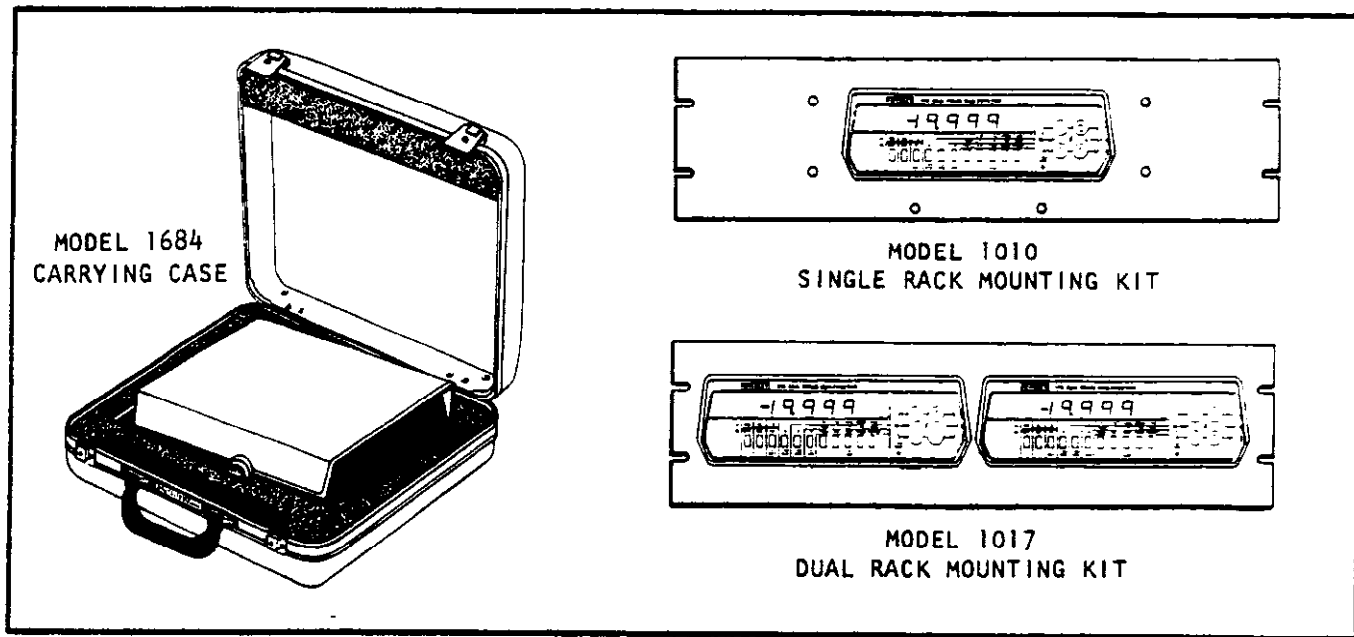

FIGURE 2-7. Carrying Case and Rack Mounting Kits.
g. Model 1684 Carrying Case. The Model 1684 Carrying Case (Shown in Figure 2-7) is a hard vinyl case with a fitted foam insert to help protect the 179 DMM from damage. There is also room in the case for the service manual and other small accessories.
h. Models 1010 and 1017 Rack Mounting Kits. The rack mounting kits (shown in Figure 2-7) permit mounting one or two Model 179 DMM's in a rack for convenient viewing.